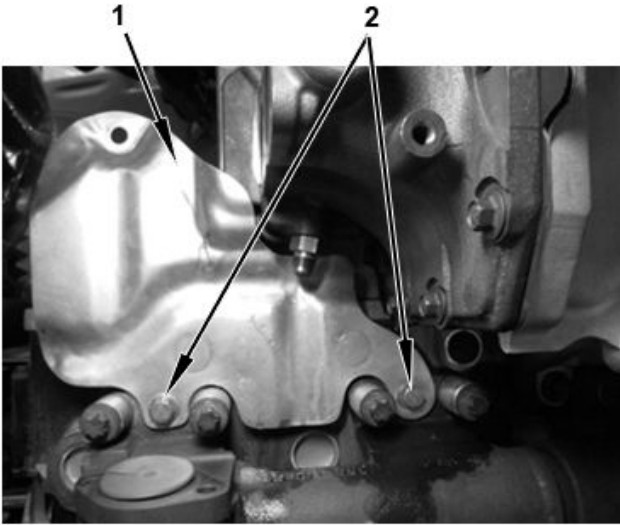

Figure 18. EGR Heat Shield.
22. Remove EGR heat shield (Figure 18, Item 1) and remove two bolts (Figure 18, Item 2).